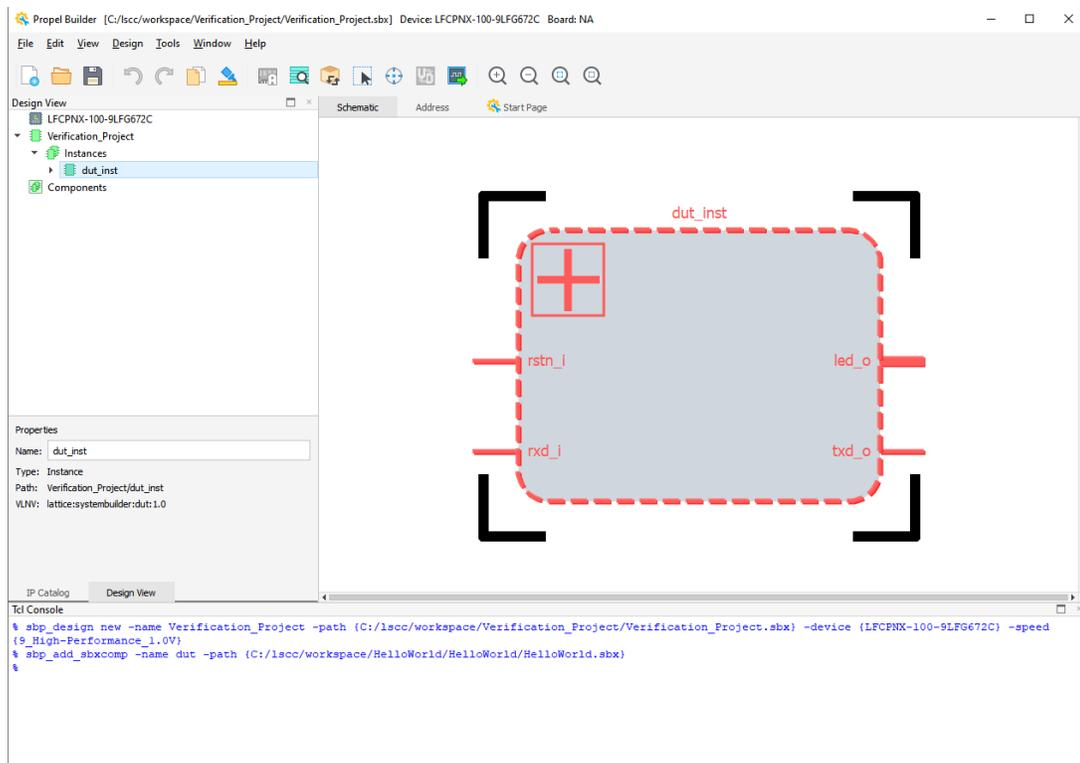

Figure 2.144. Verification Project
- Click **Finish**. The dut_inst of SoC project is shown in the Schematic view (Figure 2.144).